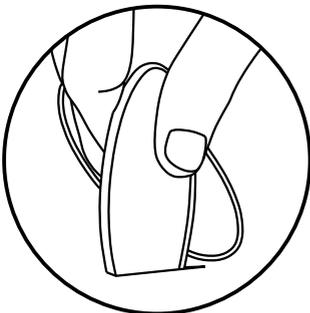

Fig 11 - Place bottom half into tear/split
3. Unscrew the wing nut on the seal and pull the halves apart. Place the bottom half into the tear/split (Fig 11). Take care to make sure the line and the other half are both outside the tear/split.